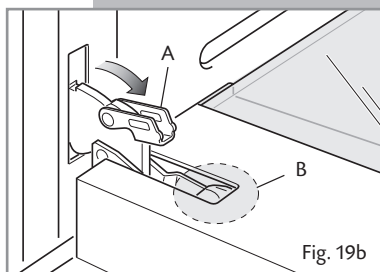
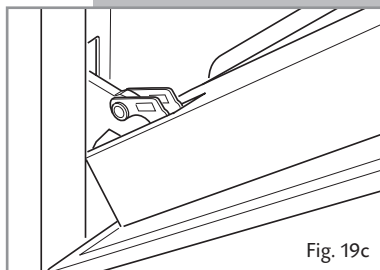

Fig. 19b
Fig. 19c
- Open the lever **A** completely on the left and right hinges (fig. 19b).
- Gently close the door (fig. 19c) until left and right hinge levers **A** are hooked to part **B** of the door (fig. 19b).